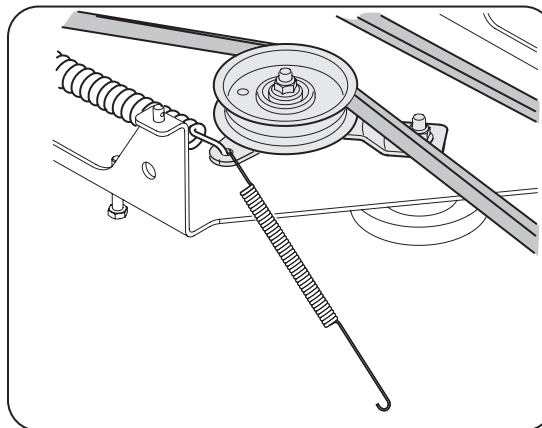
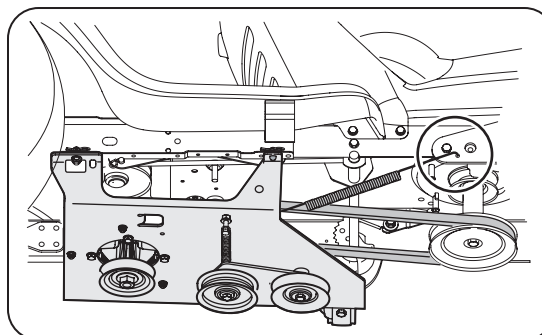

Figure 4-9
Figure 4-10
5. Attach the extension spring to the idler pulley. See Fig. 4-9. Connect the other end to tractor's frame rail. See Fig. 4-10.